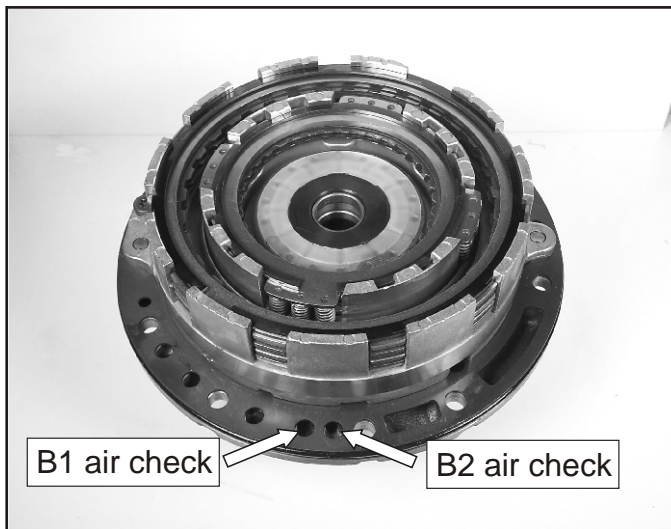

Figure 126
- 72. Using a rubber tip blow gun, air check the B1 and B2 clutch assemblies, thru the two ports, as shown in Figure 126.